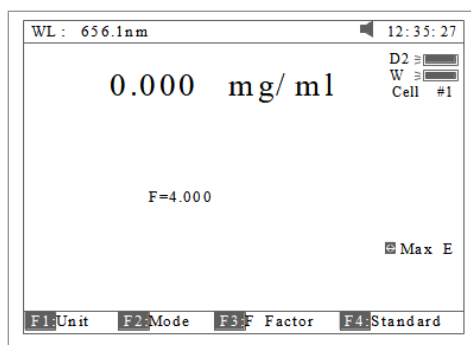

Fig 24
4.2 Push sample of known concentration into the Main Light Path Press **【F4】** to input known Conc value, Fig 24. Then push the sample into Main Light Path to take reading of concentration.